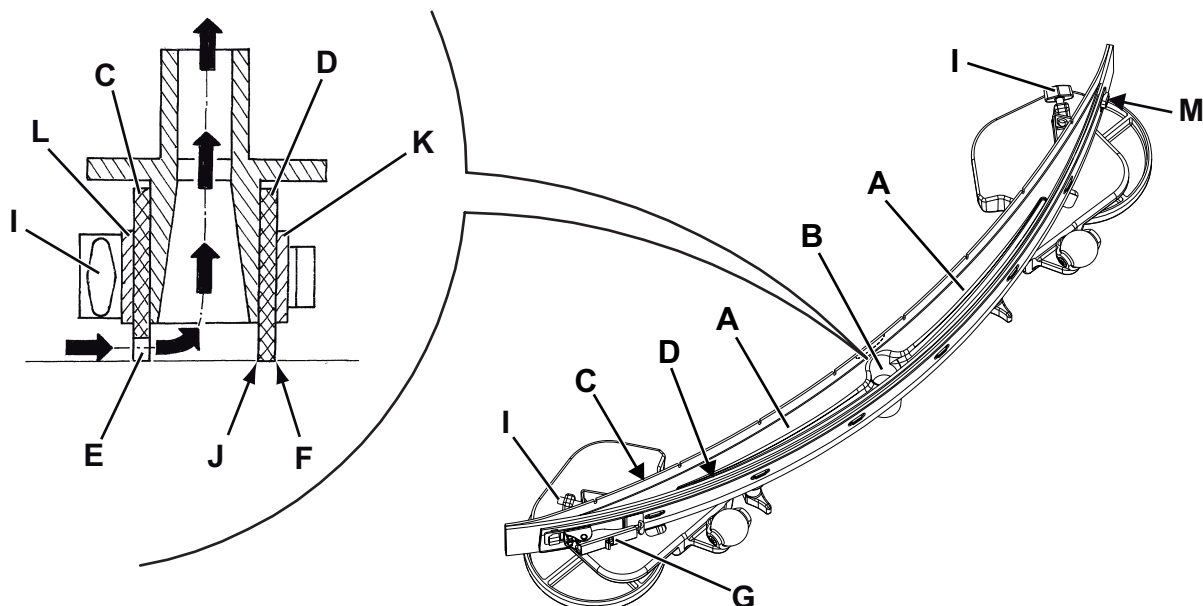

Figure 6
2. Insert the ignition key (58) and turn it to "I".
3. Lower the squeegee (30) by pressing the push-button (63).
4. Turn the ignition key (58) to "0".
5. Disconnect the vacuum hose (31) from the squeegee.
6. Loosen the handwheels (34) and remove the squeegee (30).
7. Wash and clean the squeegee. In particular, clean the compartments (A, Fig. 6) and the vacuum hole (B). Check that the front blade (C) and the rear blade (D) are integral and free from cuts and lacerations; if necessary replace them.
1. Clean the squeegee (Fig. 6) as shown in the previous paragraph.
2. Check that the edge (E) of the front blade (C) and the edge (F) of the rear blade (D) lay down on the same level, along their length; otherwise adjust their height according to the following procedure:
- Remove the tie rod (G), disengage the fastener (M) and adjust the rear blade (D); then engage the fastener and install the tie rod.
- Loosen the handwheels (I) and adjust the front blade (C); then tighten the handwheels.
3. Check the front blade (C) and rear blade (D) for integrity, cuts and tears; if necessary replace them as shown below. Check that the front corner (J) of the rear blade is not worn; otherwise, overturn the blade to replace the worn corner with an integral one. If the other corners are worn too, replace the blade according to the following procedure:
- Remove the tie rod (G), disengage the fastener (M) and remove the retaining strip (K), then replace/overturn the rear blade (D).
- Unscrew the handwheels (I) and remove the retaining strip (L), then replace the front blade (C).